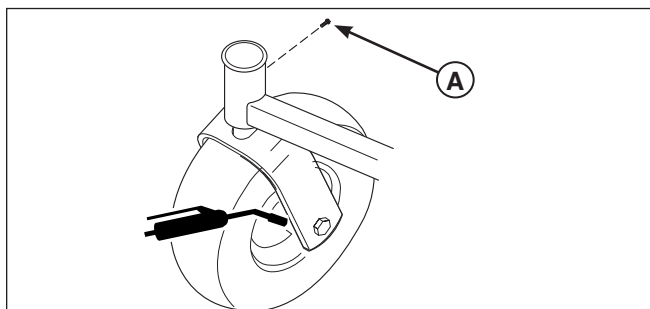

Figure 16. Front Caster & Wheel
Lubricate the unit at the locations shown in Figures 16 through 20 as well as the following lubrication points.
1. Remove the 1/4-28 bolt (A, Figure 16) screwed into the caster and install a 1/4-28 grease fitting.